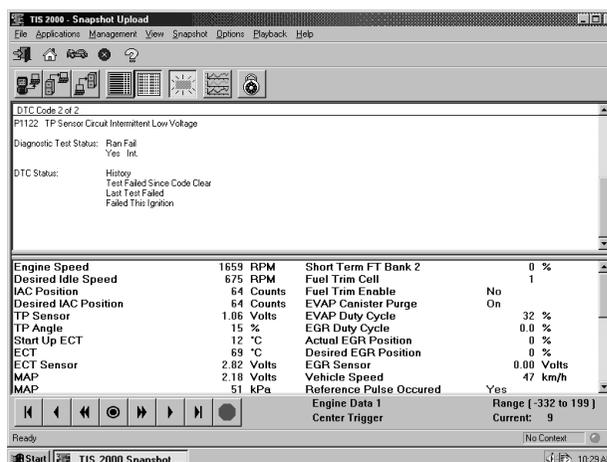

FIGURE 8-42. DTC Information on Snapshot Upload Screen
After the snapshot uploads, a list of data parameters displays on the monitor (see Figure 8-42).
After a snapshot has been uploaded (either from disk or the scan tool), it can be viewed and analyzed in a variety of ways. Figure 8-42 identifies the different display icons and replay selections.
The selections and their functions are as follows (refer to Figure 8-42):
- Two-Column (see Figure 8-42) displays a double-list. When using two-column mode, the maximum number of characters of any one line is 80.